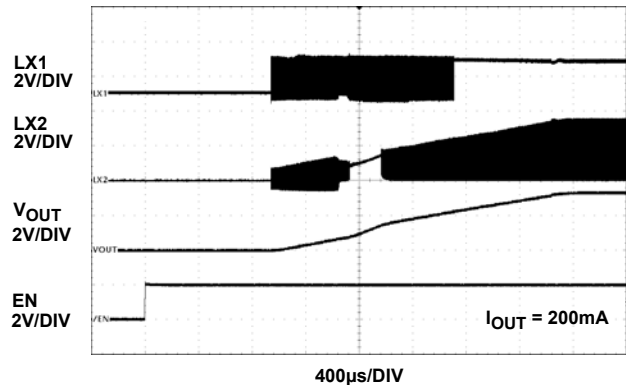

FIGURE 2. ISL91110 START-UP WITH  $V_{IN} = 2V$  and  $V_{OUT} = 3.3V$
Refer to the following Quick Setup Guide to configure and power-up the board for proper operation. During the power-on process, the expected waveforms are shown in Figures 2 and 3.
7. Monitor the output voltage start-up sequence on the scope. The waveforms will look similar to that shown in Figures 2 and 3.